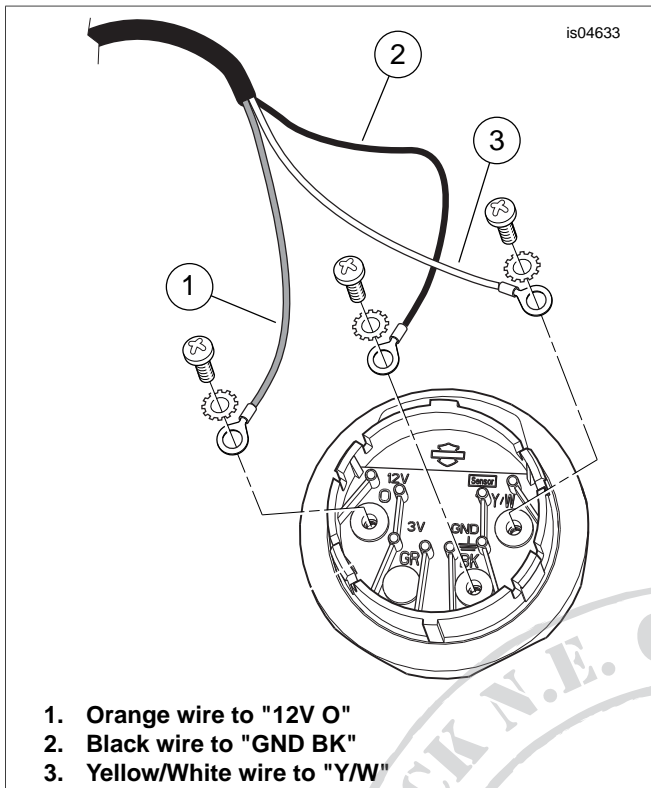

Figure 1. Wire Connections
2. See Figure 1. Use three of the Phillips-head screws and washers from the kit to connect the wires as follows: